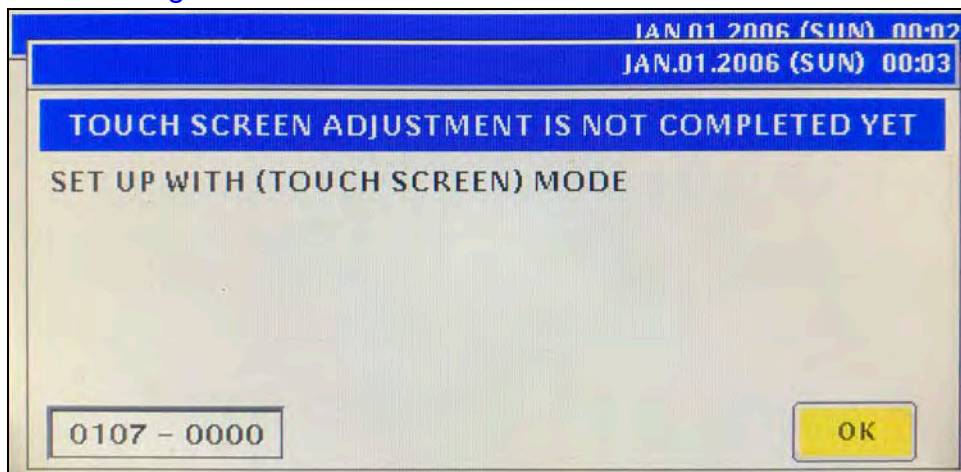

Figure 24. Touch Screen Adjustment Required Prompt
13. Press **OK** at the 0107-0000, Touchscreen Adjustment Is Not Complete Yet screen. See Figure 24.